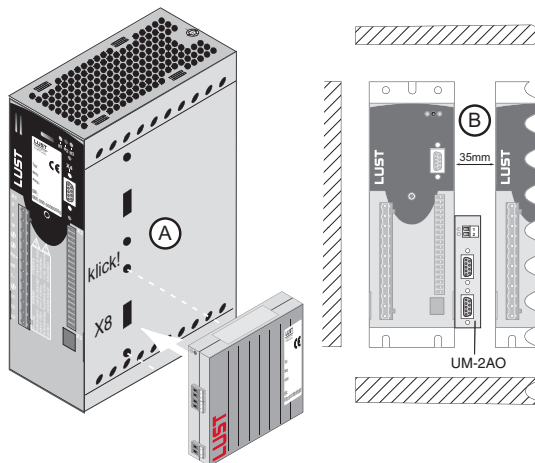

Fig 1
On drive units sizes **BG1 ... BG 5** the UM-2AO modul is connected on the side (X8) [see Fig 1 (A)]. The mounting gap of the drive unit is therefore min. 35 mm [see Fig 1 (B)].
2. Plug the UM-2AO into the drive unit as per Fig 1(A), using the mounting slot **X8**. The module lock must engage audibly.